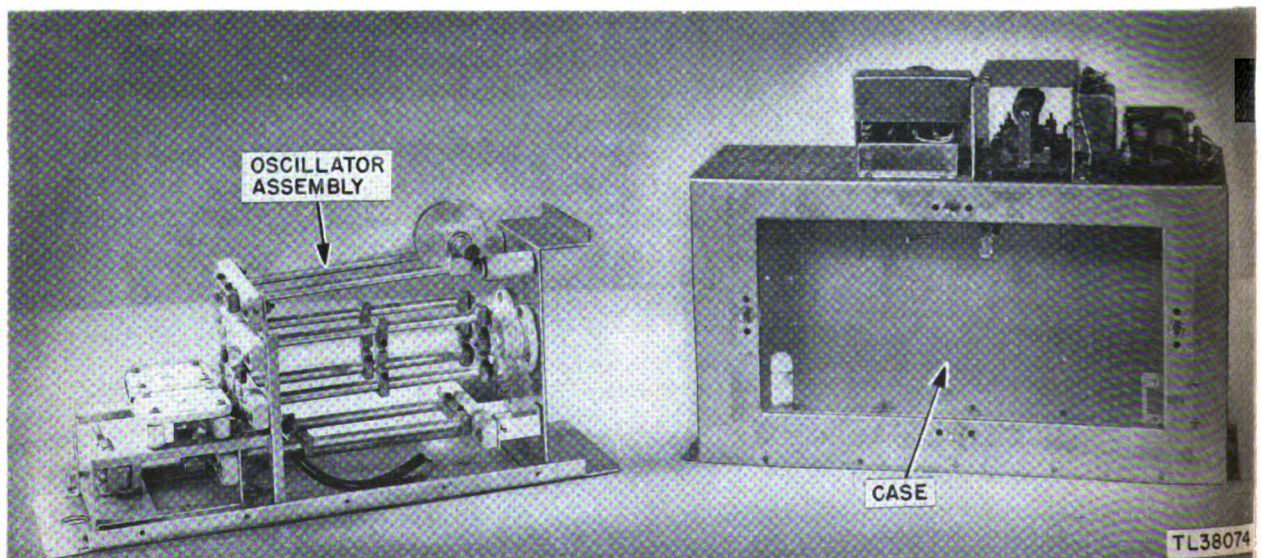

Figure 161. Oscillator compartment assembly and case.
*w.* Lift the case from the oscillator section (fig. 161).